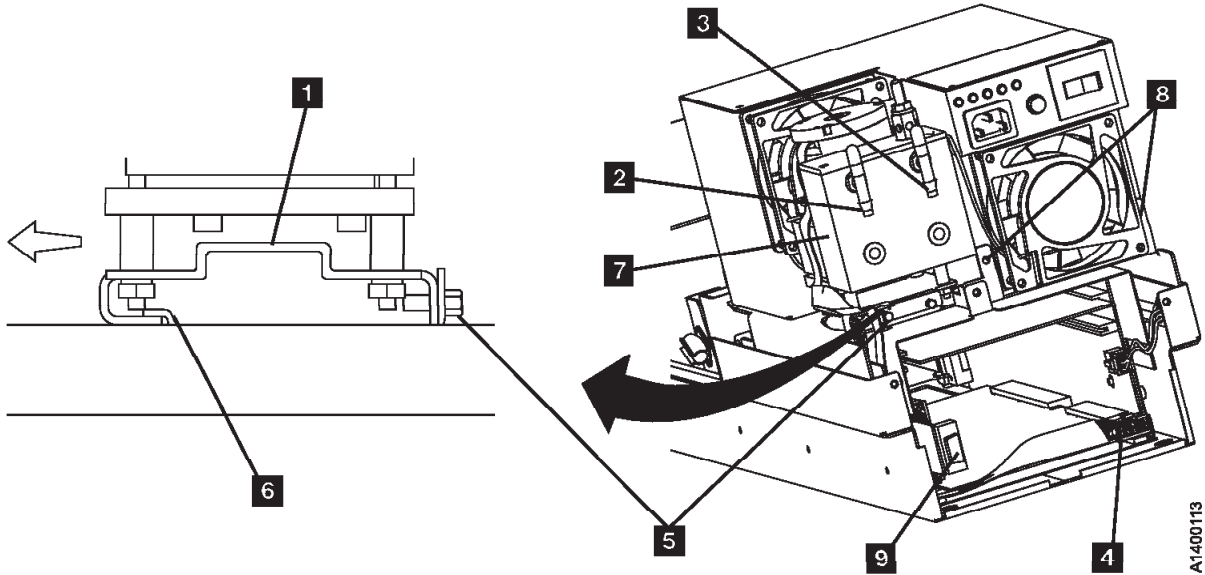

Figure 10-41. Pneumatic Assembly
4. See Figure 10-41 on page 10-58. Label and disconnect the vacuum **3** and pressure **2** hoses from the rear of the pneumatic assembly. The vacuum and pressure hose positions are marked with a letter on top of the assembly; V for vacuum and P for pressure.
- c. Remove the two pneumatic assembly mounting screws. See Figure 10-41 on page 10-58 **5**.
Note: Prior to replacement of the power supply **check the part number of the pneumatic assembly** on the side of the pneumatic assembly filter **7** in Figure 10-41 on page 10-58.